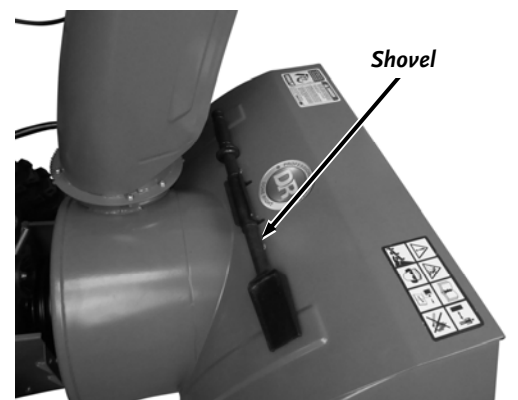

Figure 38
1. Use the Shovel that is secured to the top of the Auger Housing when clearing snow from the Discharge Chute or Auger Housing (**Figure 38**).